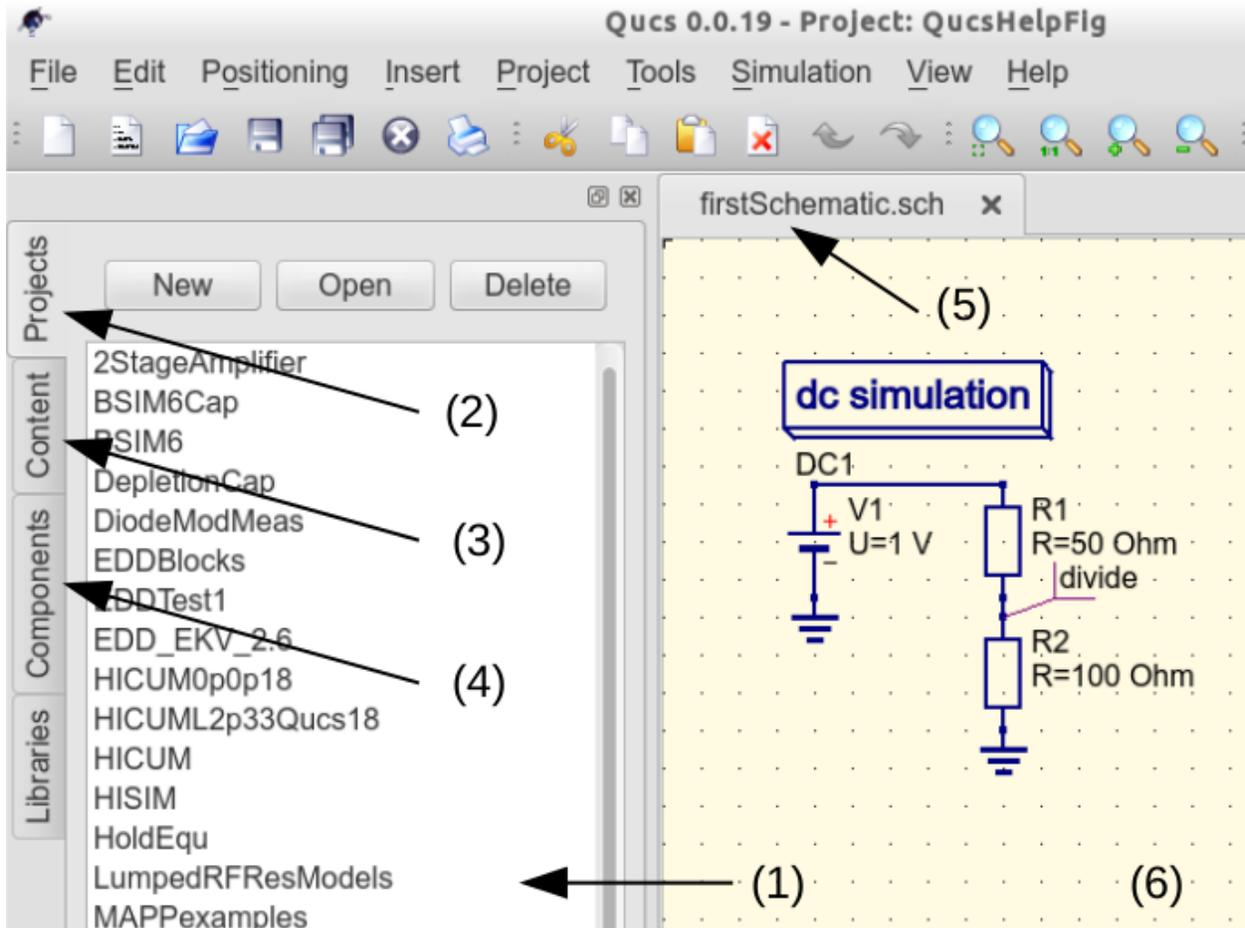
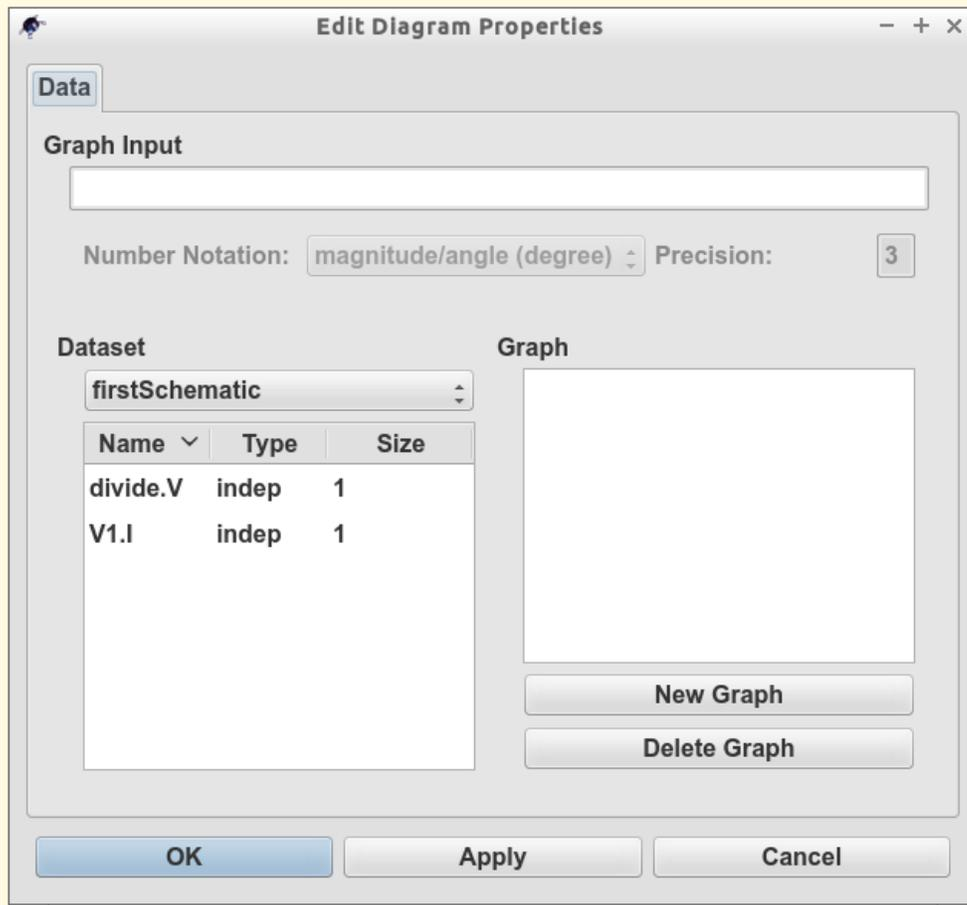

Figure 3 - Qucs main window with working areas labelled
Figure 4 - Qucs data display window showing a **Tabular** dialogue
On launching Qucs a working area labelled (6) appears at the centre of the GUI. This window is used for displaying schematics, numerical and algebraic model and circuit design data, numerical output data, and signal waveforms and numerical data visualised as graphs, see Figure 3. Clicking, with the left hand mouse button on any of the entries in the tabular bar labelled (5) allows users to quickly switch between the currently open documents. On the left hand side of the Qucs main window is a third area labelled (1) whose content depends on the status of **Projects** (2), **Content** (3), **Components** (4) or **Libraries**. After running Qucs, the **Projects** tab is activated. However note, when Qucs is launched for the first time the **Projects** list is empty.
To enter a new project left click on the **New** button located on the right above window (1). This action causes a Qucs GUI dialogue to open. Enter the name of a Qucs project in the box provided, for example enter *QucsHelpFig* and click on the **OK** button. Qucs then creates a project directory in the `~/ .qucs` directory. In the example shown in Figure 3 this is called **QucsHelpFig\_prj**. Every file belonging to this new project is saved within the **QucsHelpFig\_prj** directory. On creation a new project is immediately opened and it's name displayed on the Qucs window title bar. The left tabular bar is then switched to **Content**, and the content of the currently opened project displayed. To save an open document click on the **save** button (or use the main menu: **File** → **Save**). This step initiates a sequence which saves the document displayed in area (6). To complete the save sequence the program will request the name of your new document. Enter *firstSchematic*, or some other suitable name, and click on the **OK** button to complete the save sequence.
As a first example to help you get started with Qucs enter and run the simple DC circuit shown in Figure 3. The circuit illustrated is a two resistor voltage divider network connected to a fixed value DC voltage source. Start by clicking on the **Components** tab. This action causes a combo box to be displayed from which a component group may be chosen and the required components selected. Choose components group **lumped components** and click on the first symbol: **Resistor**. Next move the mouse cursor into area (6). Pressing the right mouse button rotates the **Resistor** symbol. Similarly, pressing the left mouse button places the component onto the schematic at the place the mouse cursor is pointing at. Repeat this process for all components shown in Figure 3. The independent DC voltage source is located in the **sources** group. The ground symbol can be found in the **lumped components** group or selected from the Qucs toolbar. The icon requesting DC simulation is listed in the **simulations** group. To edit the parameters of the second resistor, double-click on it. A dialogue opens which allows the resistor value to be changed; enter *100 Ohm* in the edit field on the right hand side and click enter.
To connect the circuit components shown in Figure 3, click on the wire toolbar button (or use the main menu: **Insert** → **Wire**). Move the cursor onto an open component port (indicated by a small red circle at the end of a blue wire). Clicking on it starts the wire drawing sequence. Now move the drawing cursor to the end point of a wire (normally this is a second red circle attached to a placed component) and click again. Two components are now connected. Repeat the drawing sequence as many times as required to wire up the example circuit. If you want to change the corner direction of a wire, click on the right mouse button before moving to an end point. You can also end a wire without clicking on an open port or on a wire; just double-click the left mouse button.
As a final step before DC simulation label the node, or nodes, whose DC voltage is required, for example the wire connecting resistors **R1** and **R2**. Click on the label toolbar button (or use the menu: **Insert** → **Wire Label**). Now click on the chosen wire. A dialogue opens allowing a node name to be entered. Type *divide* and click the **OK** button. If you have drawn the test schematic correctly the entered schematic should look the same, or be similar to, the one shown in Figure 3.
To start DC simulation click on the **Simulate** toolbar button (or use menu: **Simulation** → **Simulate**). A simulation window opens and a sliding bar reports simulation progress. Normally, all this happens so fast that you only see a short flickering on the PC display (this depends on the speed of your PC). After finishing a simulation successfully Qucs opens a data display window. This replaces the schematic entry window labelled (6) in Figure 3. Next the **Components** → **diagrams** toolbar is opened. This allows the simulation results to be listed. Click on the **Tabular** item and move it to the display working area, placing it by clicking the left hand mouse button. A dialogue opens allowing selection of the named signals you wish to list, see Figure 4. On the left hand side of the **Tabular** dialogue (called Edit Diagram Properties) is listed the node name: **divide.V**. Double-click on it and it will be transferred to the right hand side of the dialogue. Leave the dialogue by clicking the **OK** button. The DC simulation voltage data for node **divide** should now be listed in a box on the data display window, with a value of 0.666667 volts.